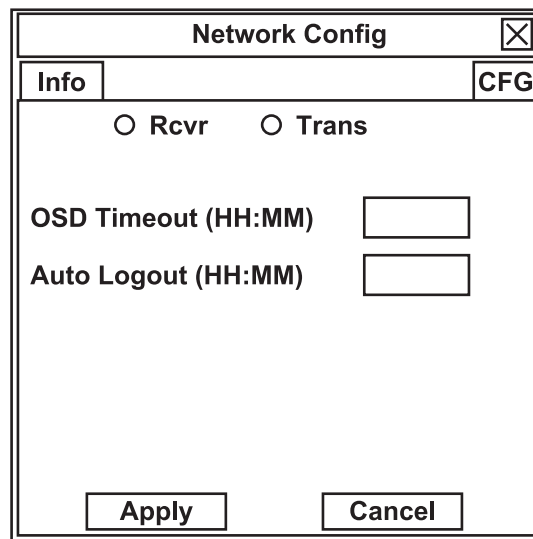

Figure 4-6. Configuration Menu (OSD Timeout and Auto Logout).
1. Press “Print Screen” and select the CFG tab (see Figure 4-6).